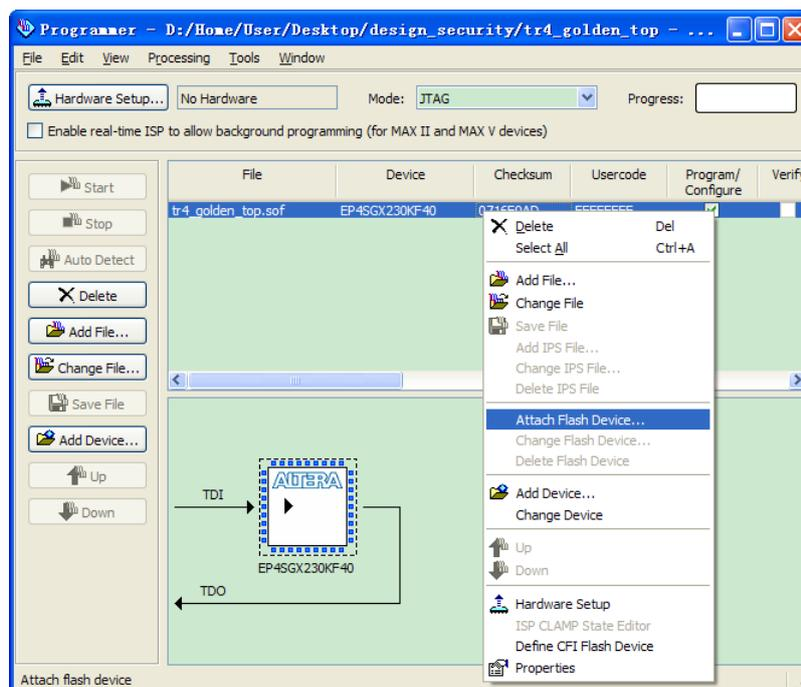
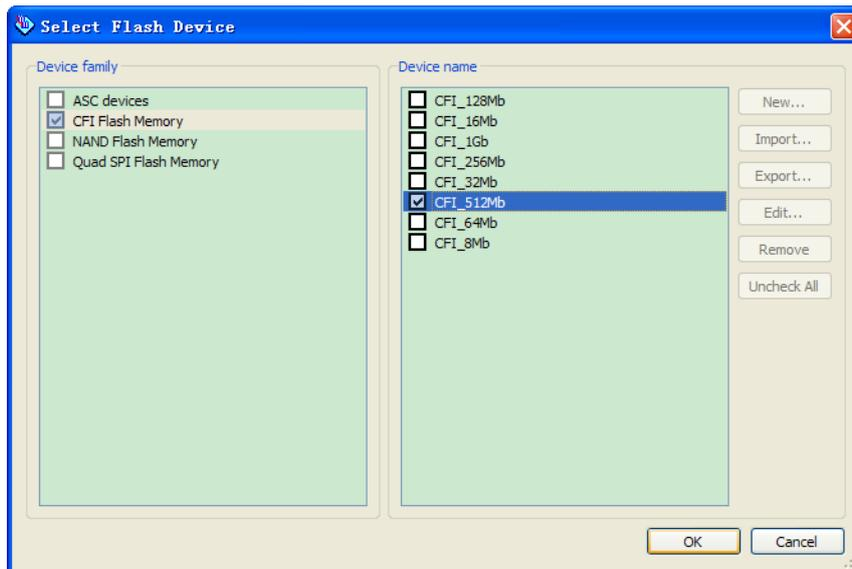

Figure 3-17 Attaching Flash Device
Figure 3-18 Selecting Flash Device
5. Select and right-click the SOF you just added. Click **Attach Flash Device**, as shown in Figure 3-17. The **Select Flash Device dialog** box appears as shown in Figure 3-18.